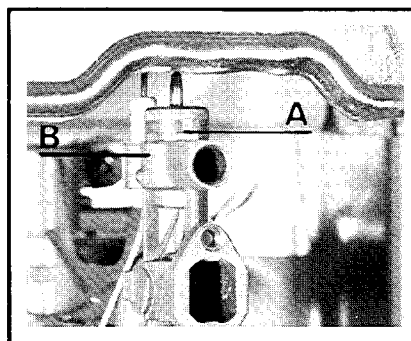

Fig. 3
## 4) Pilot (fig. 3).
- Unscrew the knurled pilot burner outer ring A (fig. 3).